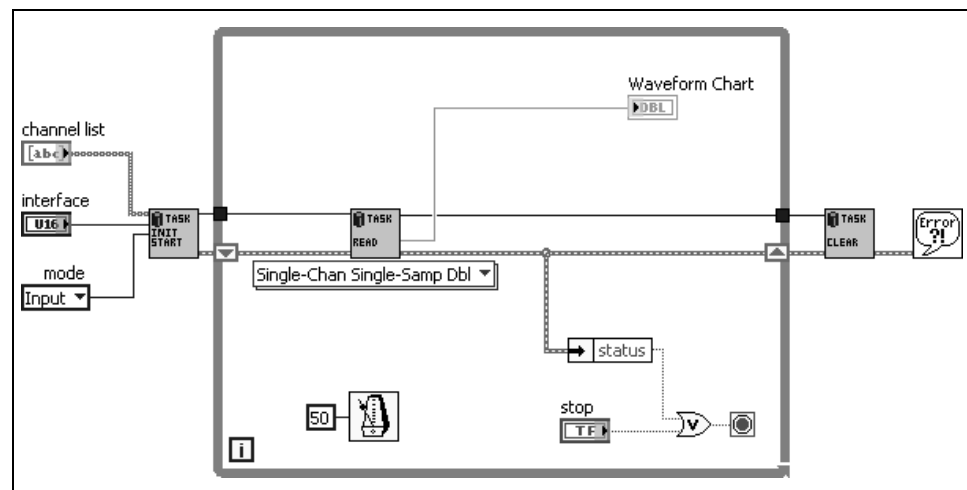

Figure C-17. Read CAN Channels VI Block Diagram
In the following steps, you complete the block diagram shown in Figure C-17.
3. Wire the block diagram as shown in Figure C-17.